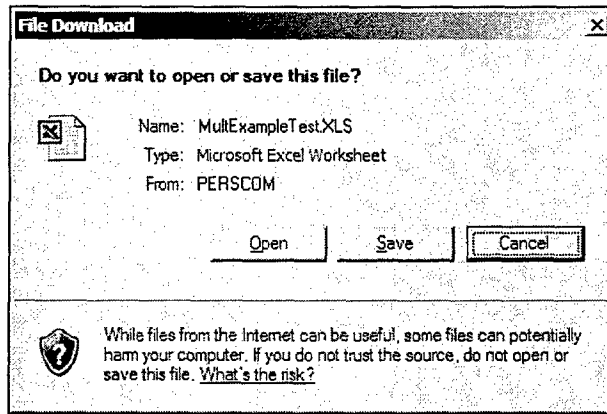

Figure 50. Export Multiplier Levels Report to Excel
4. You can export the multiplier level report to a Microsoft Excel workbook by clicking the *Export to Excel* button at the top of the page. The Dialog Box displayed in Figure 50 shows that the workbook is automatically named using the convention *Mult&Planname.XLS* (e.g., *MultExampleTest.XLS*). You may either open the workbook directly or save the workbook to a local or remote (network drive).